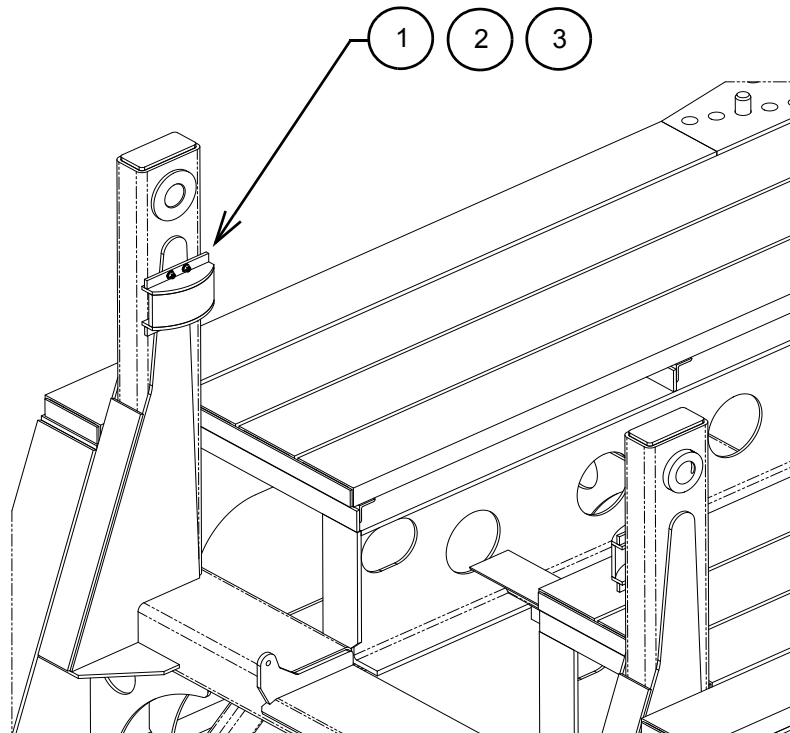

Figure 2: New Heavy-duty Guard Installed
4. Ensure the sensors are aligned, and install the safety curtain laser guard using the provided hardware and thread locking compound (Figure 2).